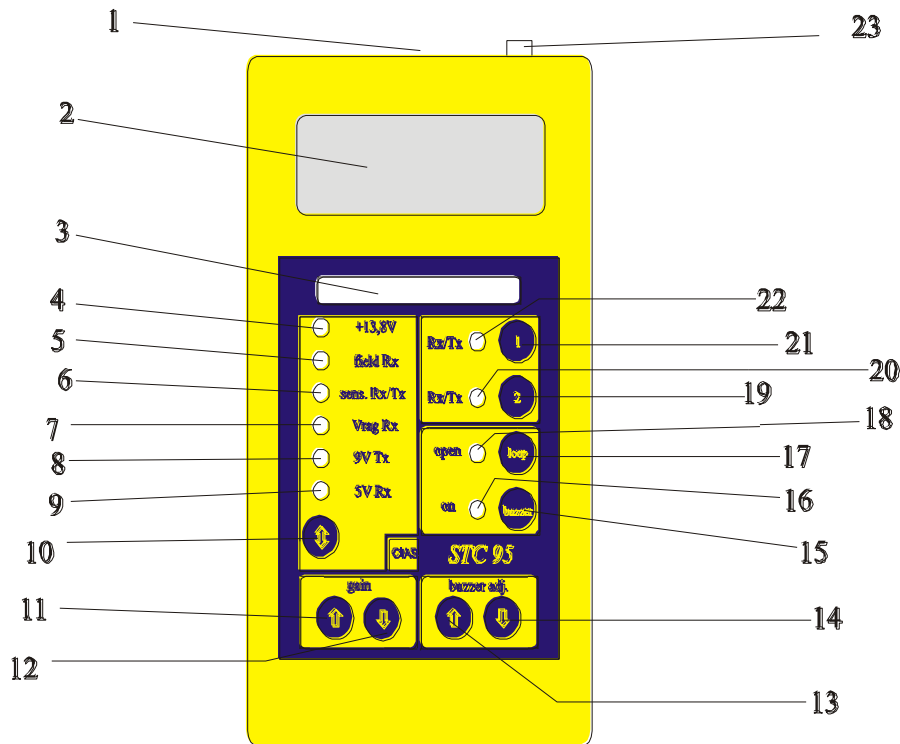

Figure 10
For the Microwave Barrier Adjustment and Testing, CIAS gives the availability of a dedicated instrument, with the intention to facilitate installation operation and operator activity support. The following figure 10 shows the CIAS STC 95 instrument with function explanations.
- l) Press key **“↑” (10)** till led **“V Rag Rx” (7)** is on. Check that a voltage value within  $2,5 \div 6,5 V_{DC}$  is read on the display. This AGC voltage value is directly proportional to the distance between the transmitting and receiving heads.
- m) Press key **“↑” (10)** till the Sensitivity Measurement led **“sens Rx / Tx” (6)** is on. Operate on the **SEN** trimmer present in module RX (fig. 10) till a value within  $0,3$  and  $9 V_{DC} \pm 5 \%$  is read on the display. Note that the value of  $0,3 V_{DC}$  corresponds to the maximum sensitivity, and that value  $9 V_{DC}$  corresponds to the minimum sensitivity. The alarm crossing tests usually are performed with a walking person (standing) moving at a speed of  $0.5$  m/s. **We suggest to start this tests with the sensitivity adjusted at 50 % (trimmer position) and the integration adjusted at 40 % (trimmer position).** The final sensitivity adjustment must be related to the specific site requirements.